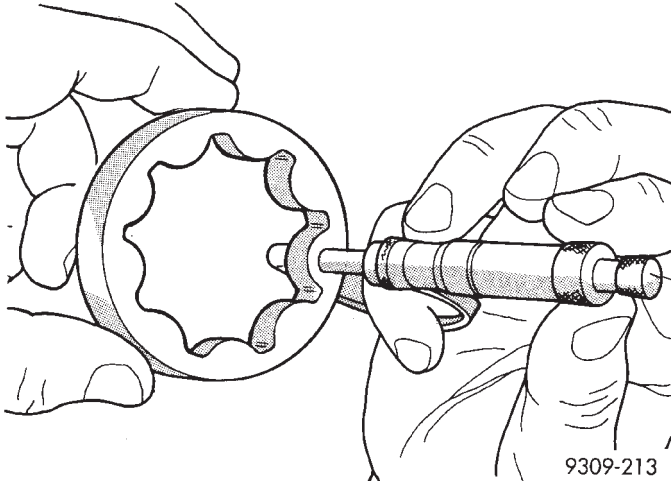

Fig. 112 Measuring Outer Rotor Thickness
(3) Measure thickness and diameter of outer rotor. If outer rotor thickness measures 7.64 mm (0.301 inch.) or less (Fig. 112), or if the diameter is 79.95 mm (3.148 inches) or less, replace outer rotor.